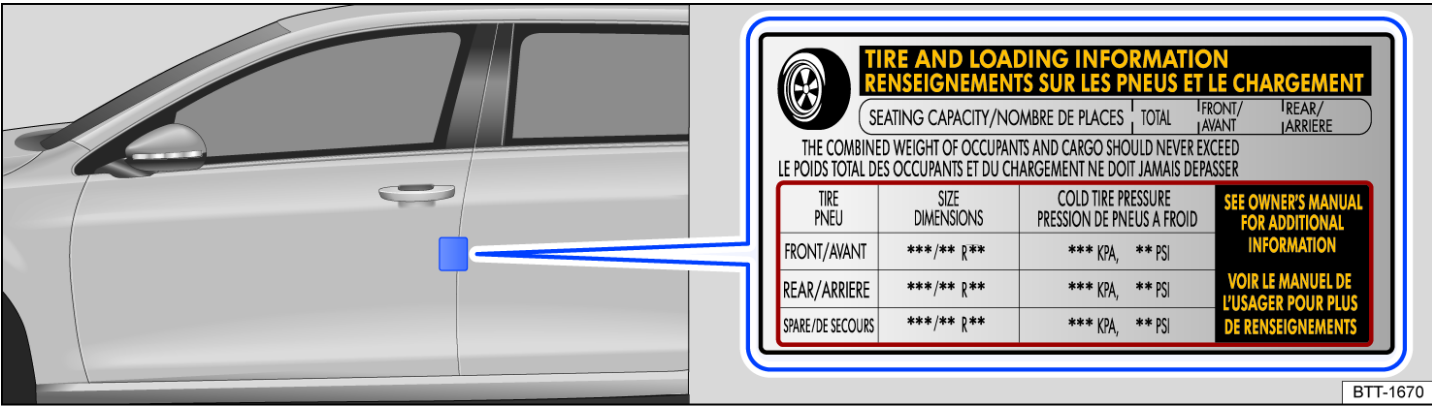

Fig. 205 On the driver door pillar: tire pressure sticker
The correct tire pressure for the tires fitted at the factory can be found on a label on the B-pillar of the driver door fig. 205. The factory-installed tires can be winter, summer or all-season tires.
- Always adjust the tire pressures to the vehicle load fig. 205.